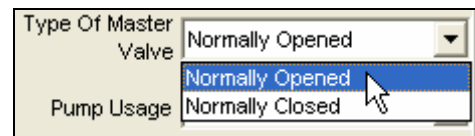

Figure 16.3.3B
2. Click on the **Type Of Master Valve** box and select from the drop down list the type of Master Valve that you have for this controller (Figure 16.3.3B).